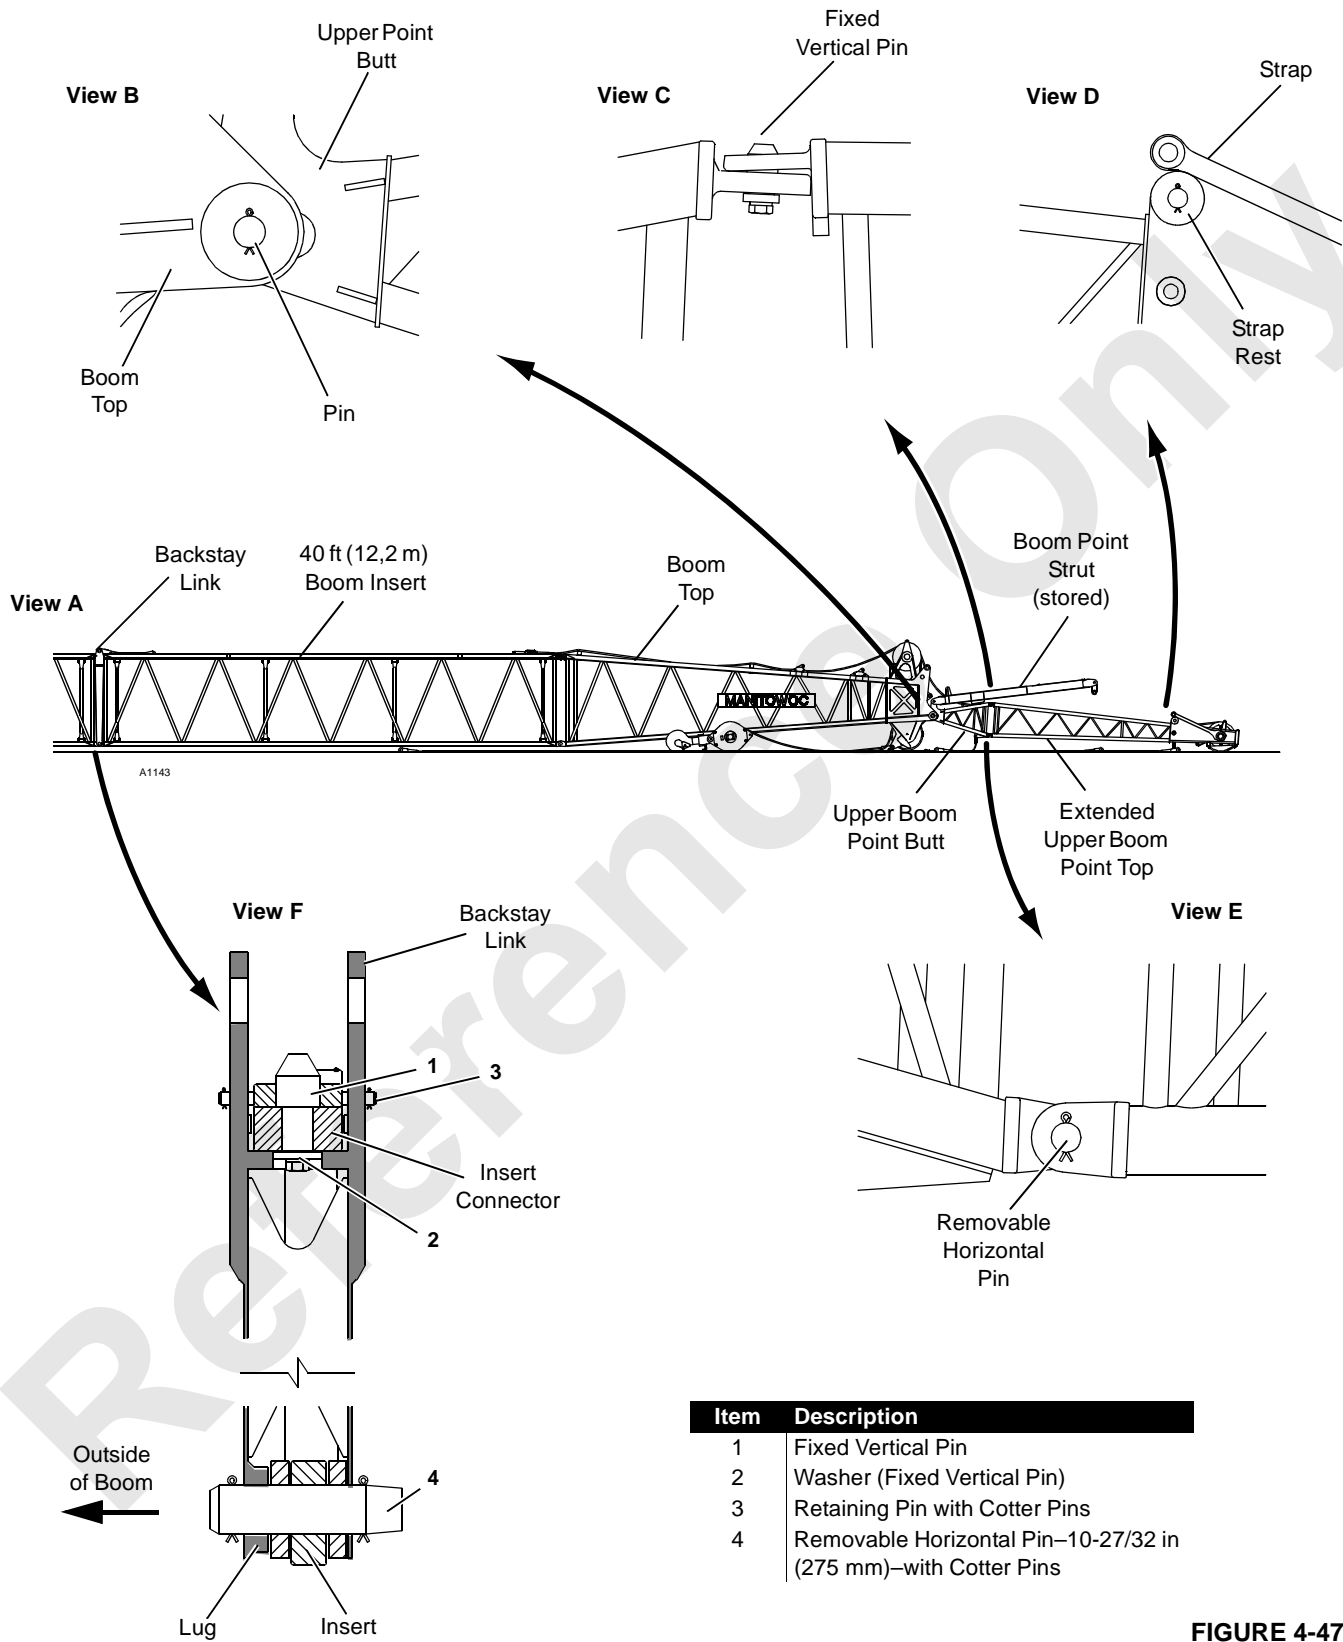

FIGURE 4-47
The extended upper boom point consists of a 5 ft (1,5 m) butt and a 20 ft (6,1 m) top, providing a basic length of 25 ft (7,6 m) as shown in Figure 4-47.
See Figure 4-47 for following procedure.
NOTE: The extended upper boom point strut is shipped in the stored position on the butt (Figure 4-47 View A).
Straps dropping from strap rests will damage controls. Handle upper point with care so straps remain seated on rests (Figure 4-47, View C).
2. Align holes in extended upper point butt with holes in boom top and install connecting pins (Figure 4-47, View B).
2. Align holes in extended upper point butt with holes in boom top and install connecting pins (Figure 4-47, View B). Install blocking under top of butt.
- The top connectors are joined by fixed vertical pins that hook into holes in the adjacent section (Figure 4-47, View C).
- The bottom connectors are joined by removable horizontal pins (Figure 4-47, View E).